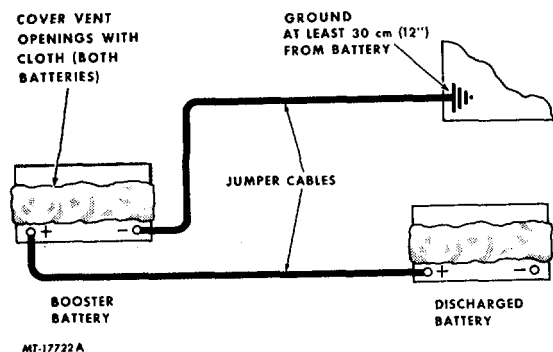

Fig. 9. Proper Jumper Cable Connections
4. On negative ground vehicles, attach one end of the jumper cable to the positive (+) terminal of the booster battery and the other end of same cable to positive (+) terminal of discharged battery (Figure 9).
5. On negative ground vehicles, attach one end of the remaining jumper cable to the negative terminal of the booster battery and the other end to a ground at least 304 mm (12 inches) from the battery of the vehicle being started (Figure 9). (DO NOT connect directly to the negative post of the dead battery.) The ground connection must provide good electrical conductivity and current carrying capacity.